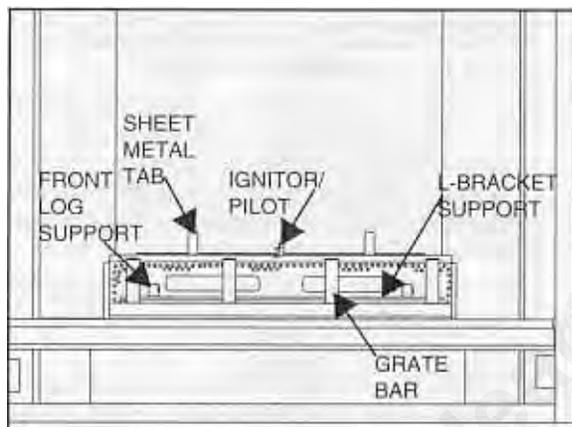
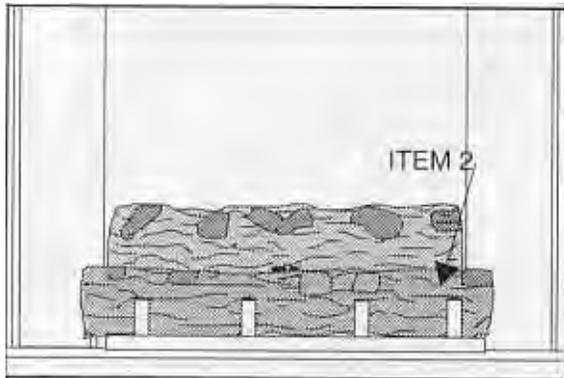

Figure 28
Figure 32
Before placing the Lava Rock and Vermiculite in either the GC300 series or GC400 series, install/make sure the four (4) Grate Bars are in their respective positions at the base of the Burner Pan Assembly. The Grate Bars are packaged in with the Log Assembly. (See Figure 28.)
1. Make sure sheet metal tabs, located on the Back Log Support, are upright, if not, bend to the up position. See Figure 28.
3. See Figure 32. Place the Front Log (Item 2) on the L-Bracket support and rest the flat portion of the log on the Front Log Supports. (See Figures 28 & 30.)